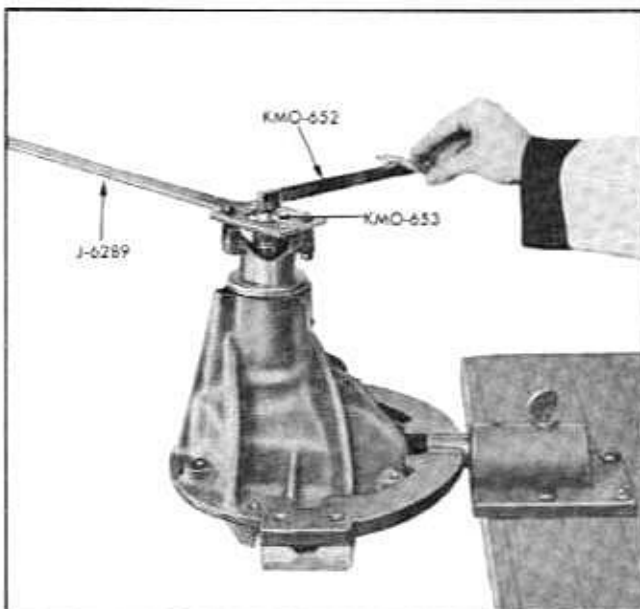

Fig. 4-39 Checking Pinion Bearing Preload With KMO-652
27. Continue to tighten the nut a little at a time, stopping frequently to turn the pinion several revolutions to seat rollers and to check turning effort with inch-pound Torque Wrench KMO 652 (Fig. 4-39). Repeat until torque required to keep pinion turning is 10 to 12 pound-inches for bearings that have had several thousand miles of use and 27 to 37 pound-inches for new bearings. If torque required to keep pinion turning exceeds 12 pound-inches for old bearings or 37 pound-inches for new bearings, it will be necessary to remove pinion and replace bearing spacer with a new part. **CAUTION:** Extreme care must be